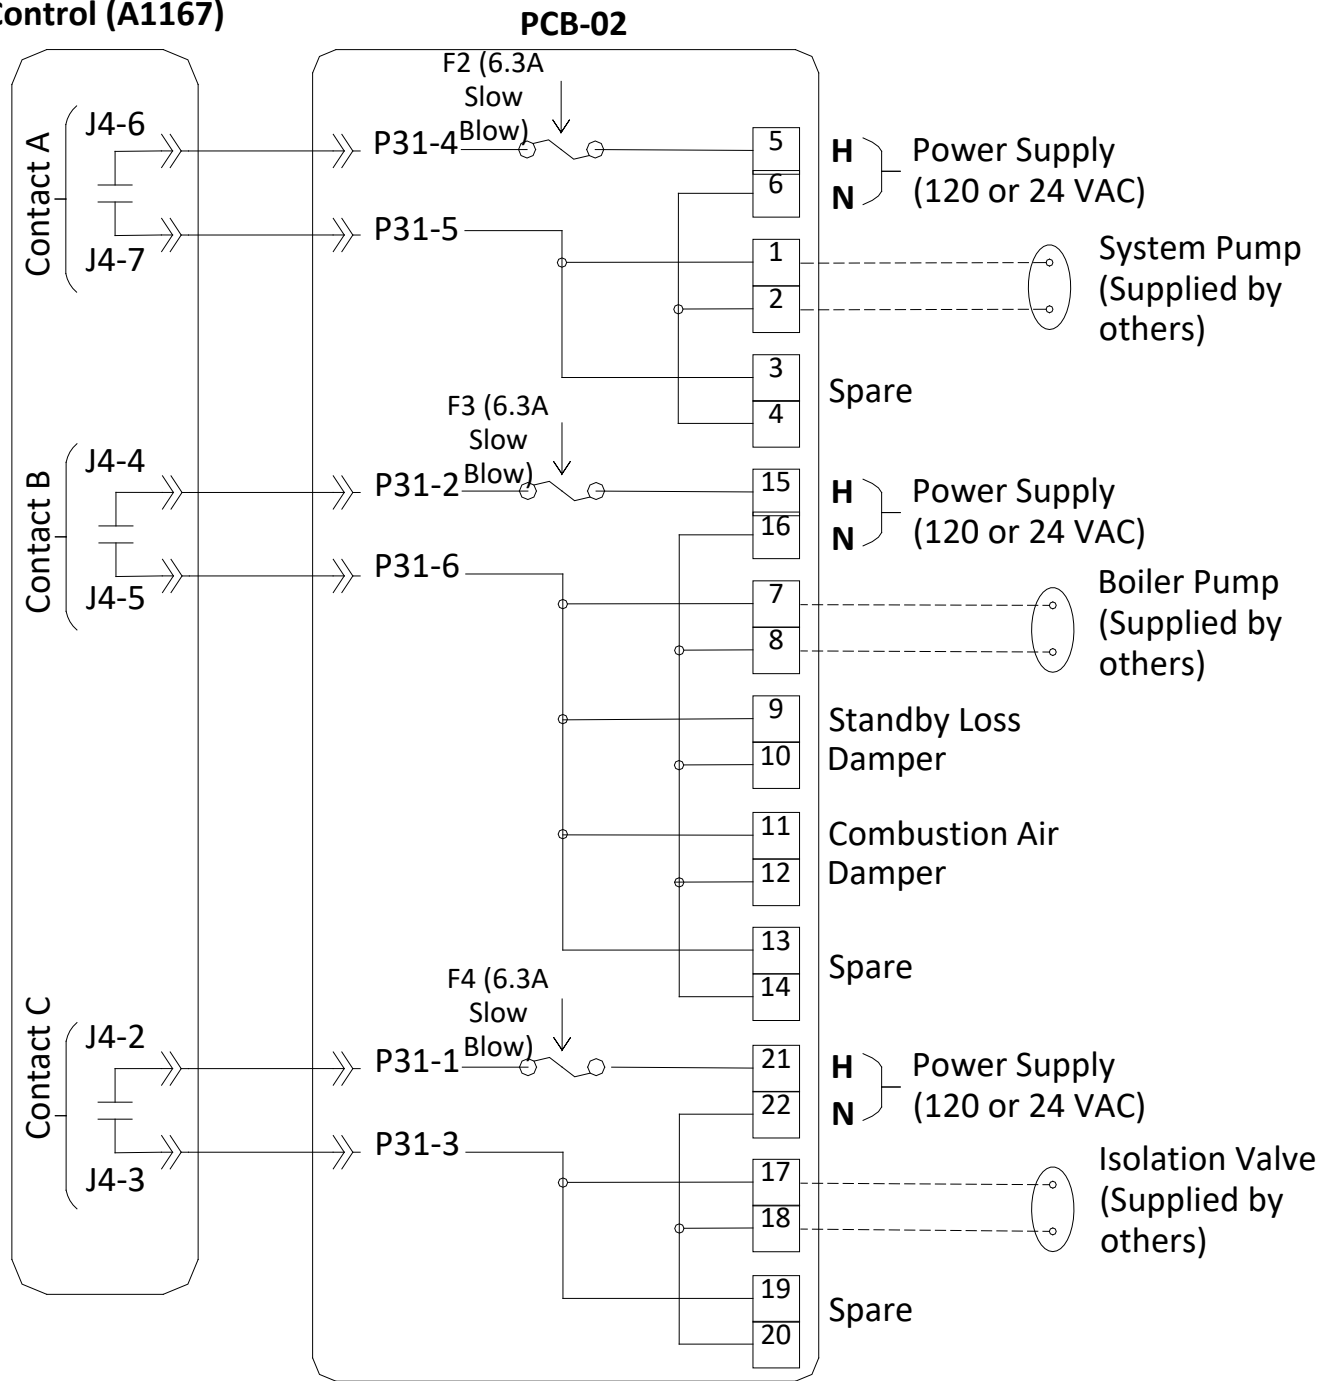

Figure 23: Ladder Diagram continued...
1. Connect to field wiring inside the control box, as shown in Figure 23. Inside the control box are five printed circuit boards (PCB’s).
3. 24VDC low voltage connections are located on the right side of PCB-01 (see Figure 23). One low voltage fuse and one spare is provided.
2. To activate system or DWH pump wire as shown in Figure 23.